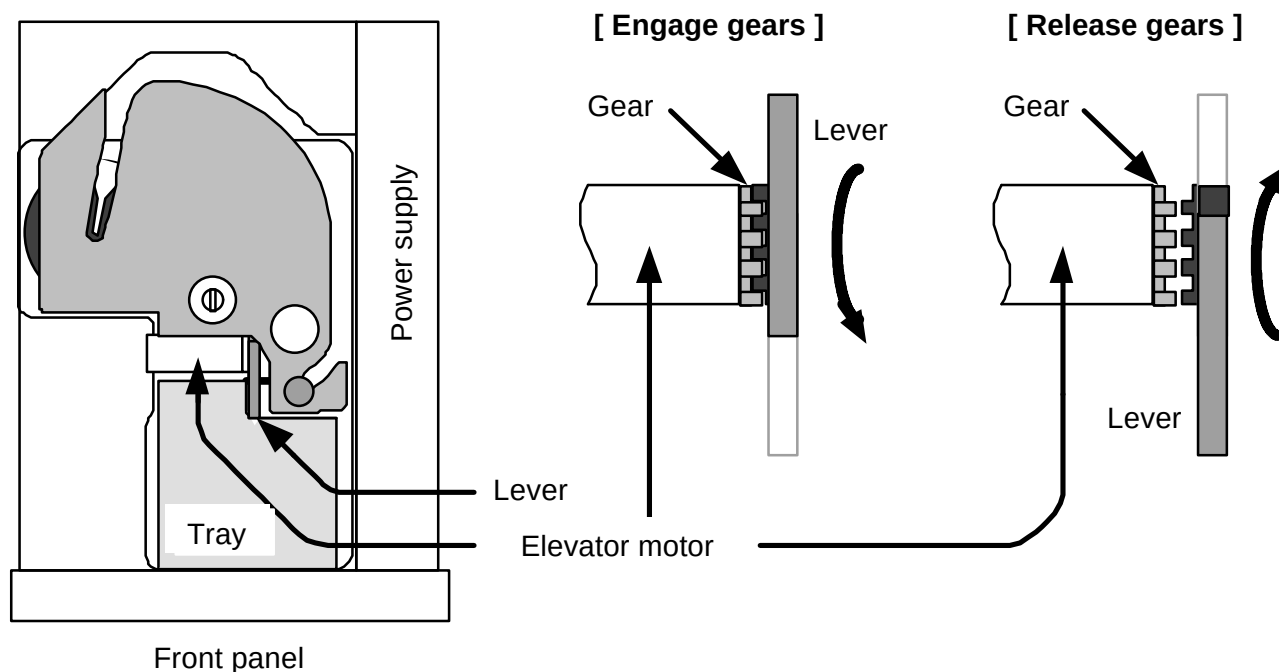

Figure 6-15 Elevator Mechanism
- 2) The tray rises when the lever of the elevator mechanism (elevator cam assembly) is turned. The following explanation indicates the order by referencing the position when viewed from the front. (Refer to Figure 6-15.)